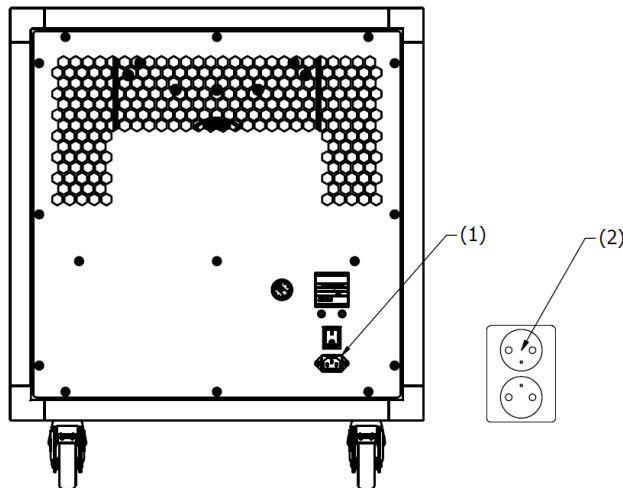

Fig. 4. Connecting the power supply
- In order to provide the power supply necessary for the operation of the device, connect the power cord to the device (1), and then to the power source (2) as shown in fig. 4.